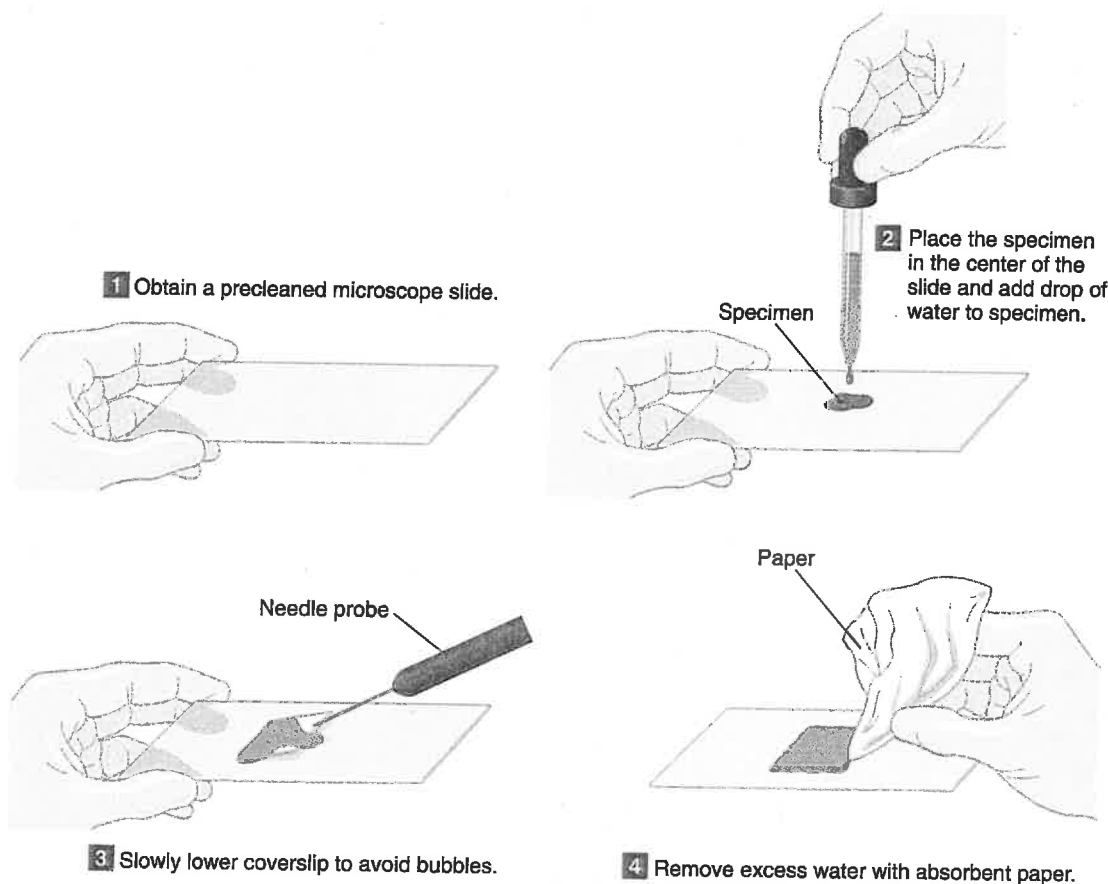

Figure 4.5 Steps in the preparation of a wet mount.
1. Prepare several temporary *wet mounts* using any small, transparent objects of interest, and examine the specimens using the low-power objective and then a high-power objective to observe their details. To prepare a wet mount, follow these steps (fig. 4.5):